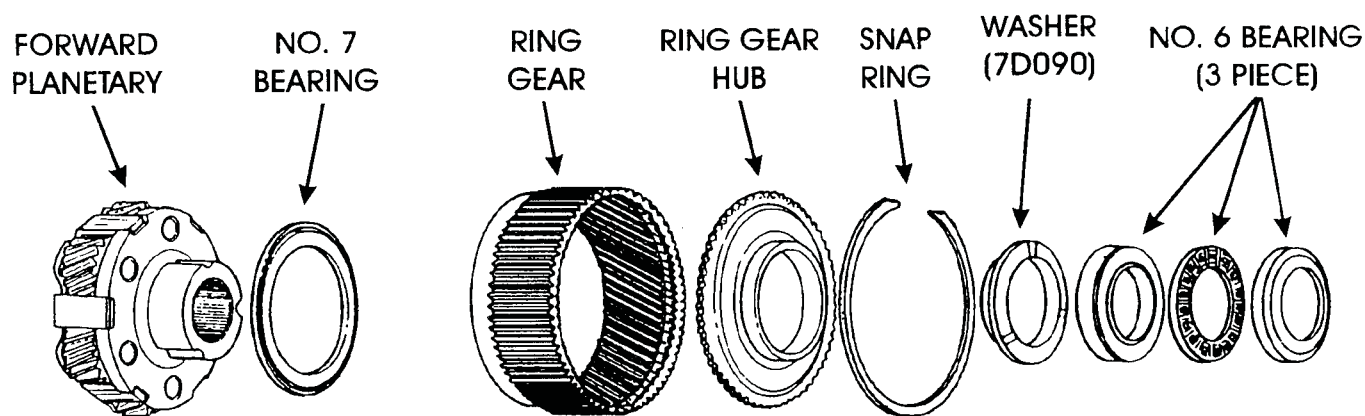

Figure 43
- (2) **FORWARD RING GEAR HUB** - The 1st Design forward ring gear hub uses a number 7 thrust washer as shown in Figure 43. On the 2nd Design ring gear hub, a recess was machined to accommodate an added number 7 thrust bearing, that replaced the number 7 thrust washer. Refer to Figures 42 and 43. Both 1st and 2nd design ring gear hubs inside diameter measure 1.500", as shown in Figure 42. On the 3rd Design ring gear hub the inside diameter was machined approximately .080" larger to accommodate a new design number 6 "Top Hat" thrust washer (See Figure 43). The inside diameter on the 3rd Design ring gear hub measures 1.580", as shown in Figure 42.
- (3) **NUMBER 6 THRUST WASHER** - Was changed from a 3 tab thrust washer to a "Top Hat" design thrust washer in 1987 (See Figure 43). This change is what required the larger inside diameter on the ring gear hub. Beginning in 1990, on 4.0L engine models, the number 6 "Top Hat" thrust washer was replaced with a new number 6 (3 Piece) thrust bearing, as shown in Figure 43. Notice also the added washer (7D090), that must be used with the 3 piece bearing design (See Figure 43). This is what required the carrier to be machined shorter. The 3 piece thrust bearing has now been changed to a normal "Torrington" (Snap Together) type bearing and replaces the 3 piece design without any other changes.
- (4) **NUMBER 7 THRUST WASHER** - Sometime in 1986, the number 7 thrust washer was eliminated, and replaced with a number 7 thrust bearing as shown in Figure 43. This change required the machined recess in the ring gear hub, to make room for the thrust bearing, as shown in Figure 42. The number 7 thrust bearing is still used through current production (See Figure 43).
- (1) The **1st Design 3 pinion aluminum** front planetary carrier system, as shown in Figure 43, is recommended for nothing larger than 2.3L engine models. The 1st Design 3 pinion aluminum front planetary carrier is no longer serviced by Ford Motor Co. It now upgrades to the latest 3rd Design 6 pinion steel front planetary carrier system, which comes as a service package and includes all necessary hubs and washers to make it compatible, and is available under OEM part number F0TZ-7A398-E.
- (2) The **2nd Design 4 pinion steel** front planetary carrier system, as shown in Figure 43, with the 1.580" inside diameter ring gear hub, the number 7 thrust bearing, the number 6 "Top Hat" thrust washer **WILL** retro-fit back on all models, except 4.0L engine models, but all parts listed above must be used as an assembly (See Figure 43). The 2nd Design 4 pinion steel front planetary carrier is no longer serviced by Ford Motor Co. It now upgrades to the latest 3rd Design 6 pinion steel front planetary carrier system, which comes as a service package and includes all necessary hubs and washers to make it compatible, and is available under OEM part number F0TZ-7A398-E.
- (3) The **3rd Design 6 pinion steel**, 4.0L engine front planetary system, as shown in Figure 43, with the 1.580" inside diameter ring gear hub, the number 7 thrust bearing, number 6 (3 Piece) thrust bearing, and bushing (7D090) **WILL** retro-fit back on all previous models, but the parts listed above are **mandatory on 4.0L models** (See Figure 43).